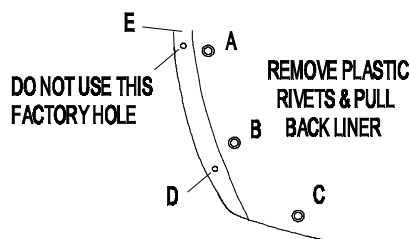

Figure 1
- Driver (LH) & passenger (RH) side mud guards
2. Remove existing plastic rivets from locations A, B, and C by prying insert (1) out of sleeve (2) with a flat tip screwdriver and removing the sleeve (2) (Figure 1 and 2).
3. Pull the fender liner back and slide a U-Clip over locations C and D (Figure 1 and 3).